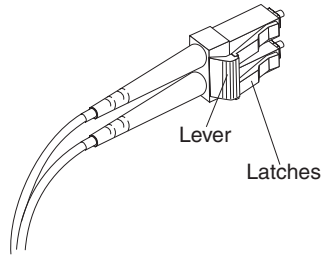

Figure 30. LC-LC fibre-channel cable lever and latches
1. On the end of the LC-LC cable that connects into the SFP module or host bus adapter, press down and hold the lever to release the latches, as shown in Figure 30 on page 38.